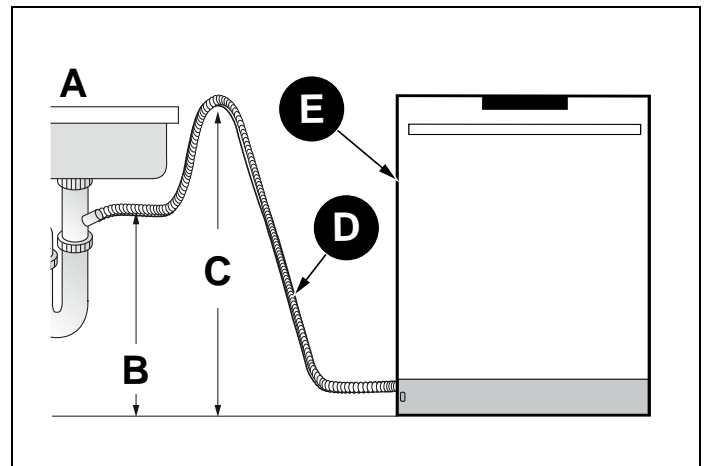

Fig. 20
5) If there is no air gap, make sure to suspend the middle of the drain hose well above the sink cabinet base to prevent back flow (see Fig. 20 ).